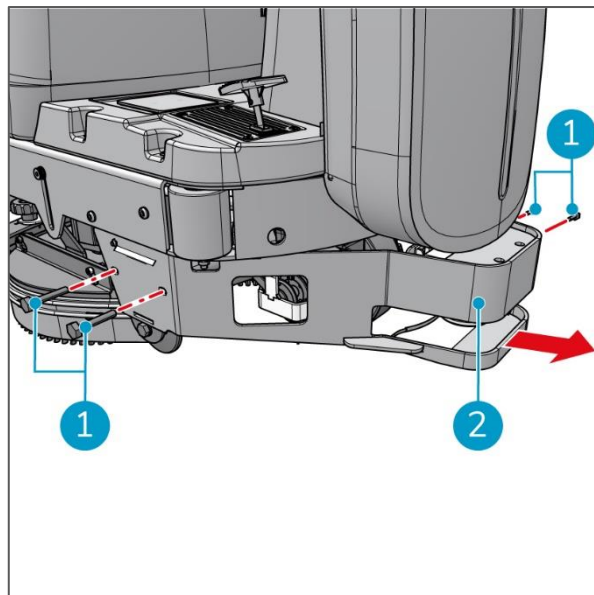

Figure 13
1. Unscrew four screws (Figure 13, pos 1).
3. Pull the bumper (Figure 13, pos 2) in the direction of the arrow.